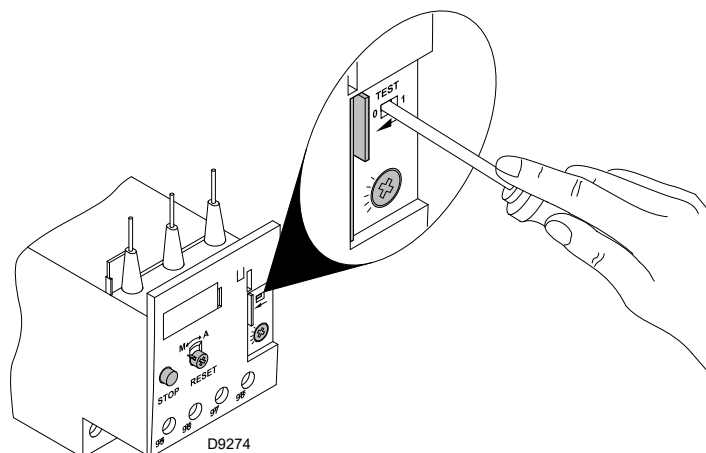

Fig. 25
- To test the thermal relay, insert a screwdriver in the window **"TEST"** (Fig. 25) and move it in the sense of the arrow (towards right).